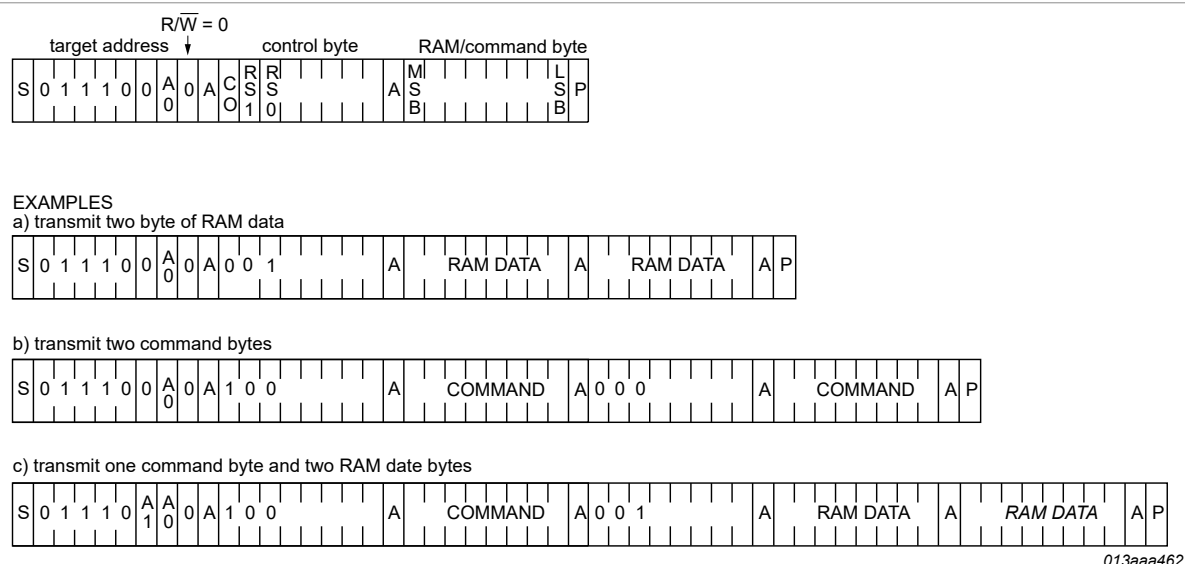

Figure 36. I²C-bus protocol write mode
The I²C-bus protocol is shown in Figure 36. The sequence is initiated with a START condition (S) from the I²C-bus controller which is followed by one of the two PCA8536 target addresses available. All PCA8536 with the corresponding A0 level acknowledge in parallel to the target address, but any PCA8536 with the alternative A0 level ignore the whole I²C-bus transfer.